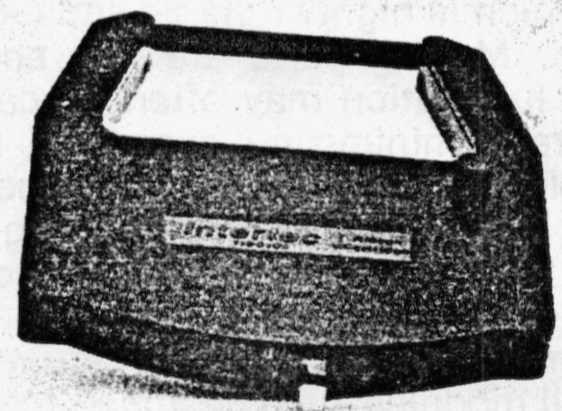

FIGURE 2-2
The SuperTerm printer uses Intertec's own snap-in ribbon cartridge, (See FIG. 2.2), which provides approximately three quarters of a million high quality characters per cartridge. It may be quickly and easily changed and the user's hand need never touch the ribbon. Outlined below is the simple procedure followed when installing or replacing a ribbon cartridge.
2. Insure that the exposed ribbon in the new cartridge is taut by winding the small post on the upper right side of the cartridge, illustrated in FIG. 2.2. (If ribbon clip has been sprung outward, pinch cartridge clips inward.)